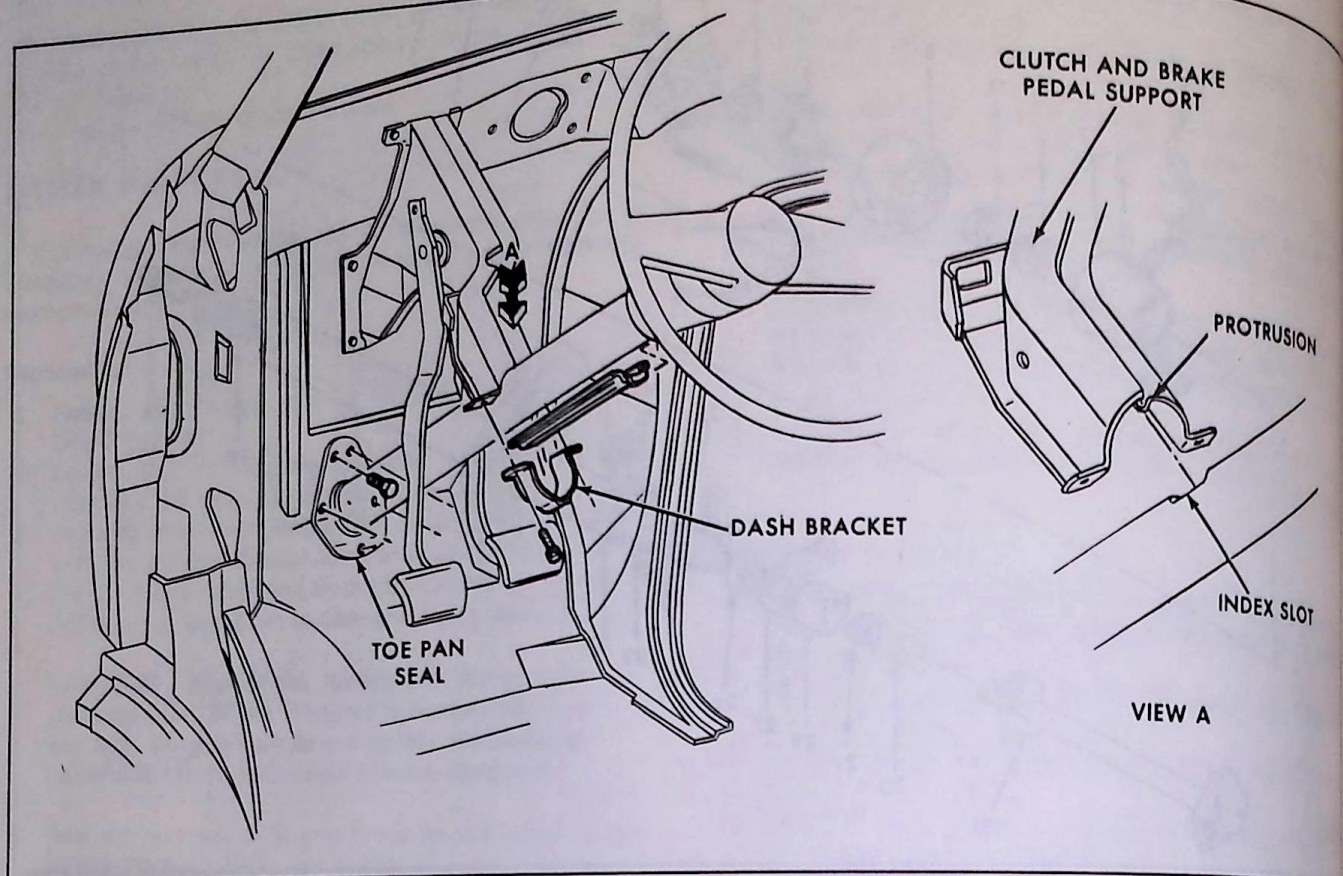

Fig. 12—Steering Column Mounting
4. Locate the index slot in the column jacket with the protrusion on the clutch and brake pedal support (Fig. 12).